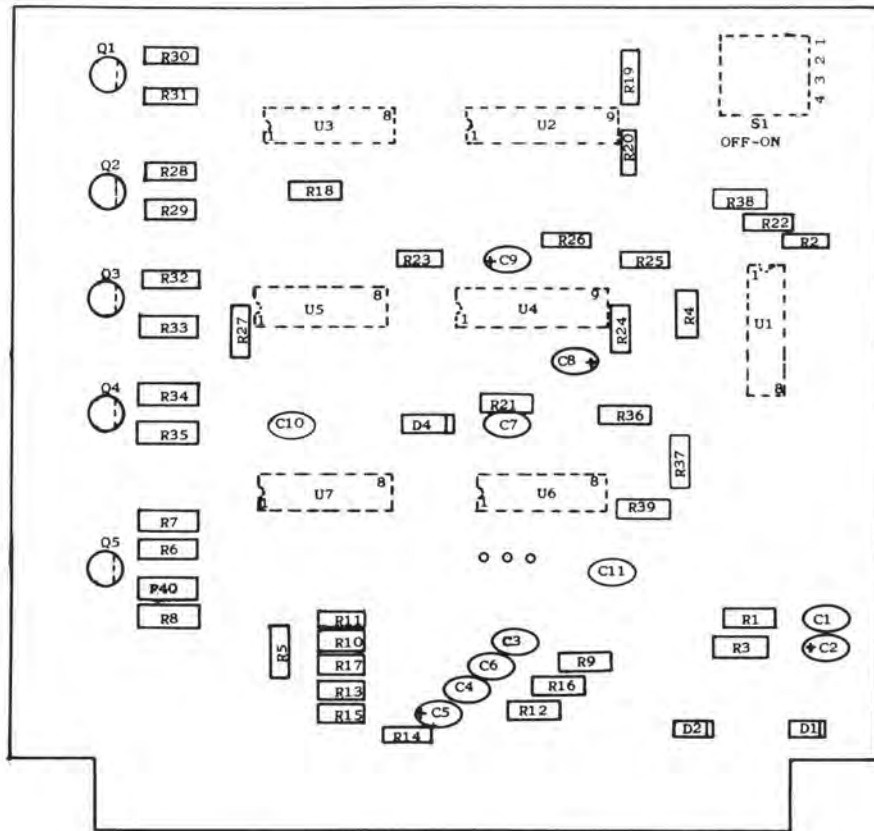

Figure 1 CONTROL LOGIC CARD 151-1
3. Connect the vertical input of an oscilloscope across this channel. Connect the horizontal input (*or channel 2 of a two trace scope triggered from Channel 1 zero crossing*) to the Right Channel output. Adjust the Play head azimuth for in-phase display of the two channels. Refer to Figure 1 below for typical phase displays. (*Phase jitter is normal during these tests.*)